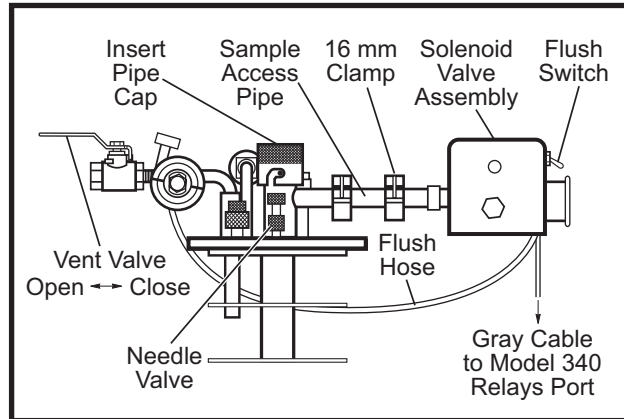

Figure 3-9. Cryostat Connections
1. Remove the vacuum pump from its shipping box. If not already installed, clamp the Foreline Trap to the pump with a 25 mm clamp. Clamp the pump hose to the Foreline Trap with a 25 mm clamp. See Figure 3-9.